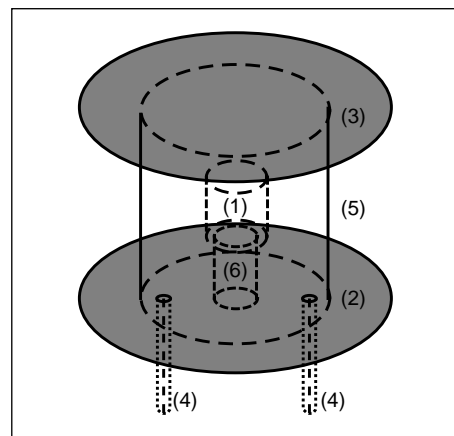

fig. 2b
- Selecting a configuration in which the metallic loss is significant (fig. 2b). The shield must be approximately three times the resonator dimensions and the metal must be a good conductor (copper, silver, etc.).